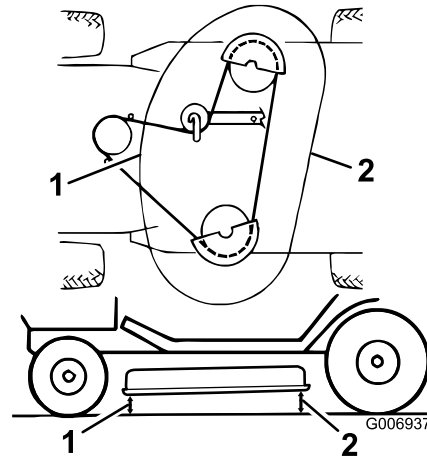

Figure 62
- Check the front-to-rear slope by measuring between the bottom of the cutter deck (front center and rear center) and the flat surface (Figure 62). If the front is not within a range of 1/8 to 3/8 inch (3 to 10 mm) lower than the rear, an adjust it.